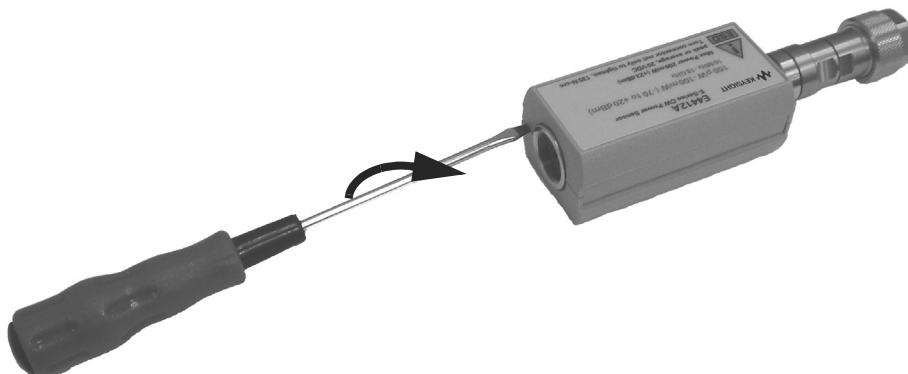

Figure 1-8 Removing power sensor shell
- 1 At the rear of the power sensor, insert the blade of a screwdriver between the plastic shells (Figure 1-8). To prevent damage to the plastic shells use a screwdriver blade as wide as the slot between the two shells.
- 1 Replace the magnetic shields and the plastic shells as shown in Figure 1-8. Snap the plastic shells together.